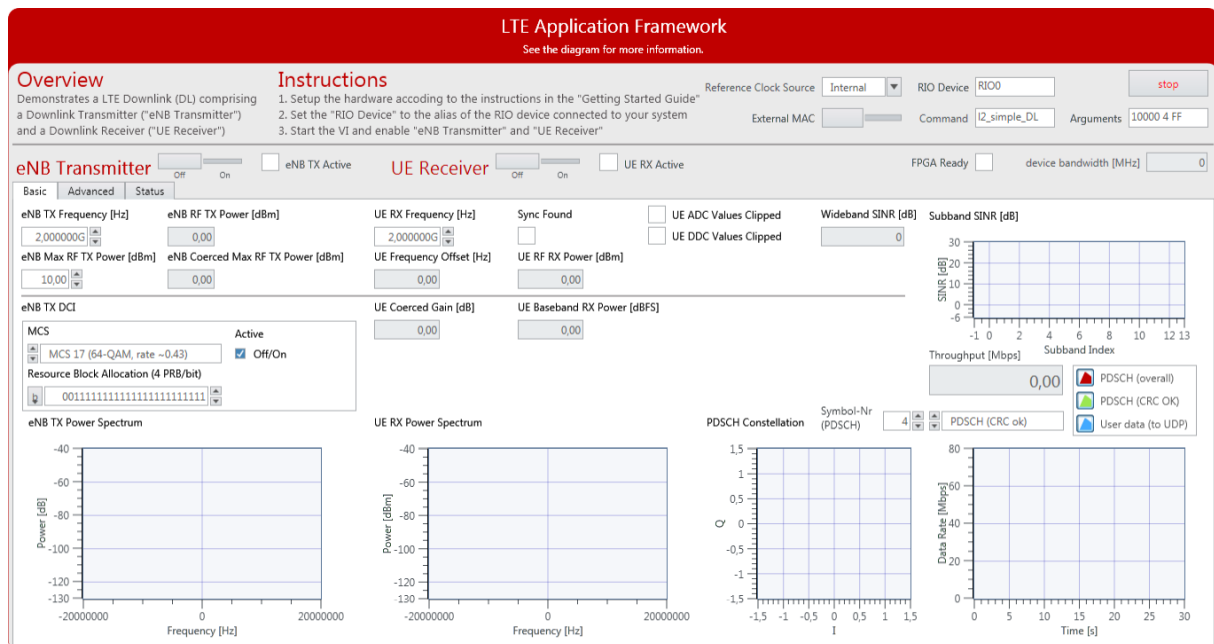

Figure 7 Front Panel of LTE Host DL.gvi (Downlink-Only Host Variant)
4. Within that project, open the LabVIEW top-level host VI in the downlink-only variant, **LTE Host DL.gvi**. The panel of this VI is shown in Figure 7.